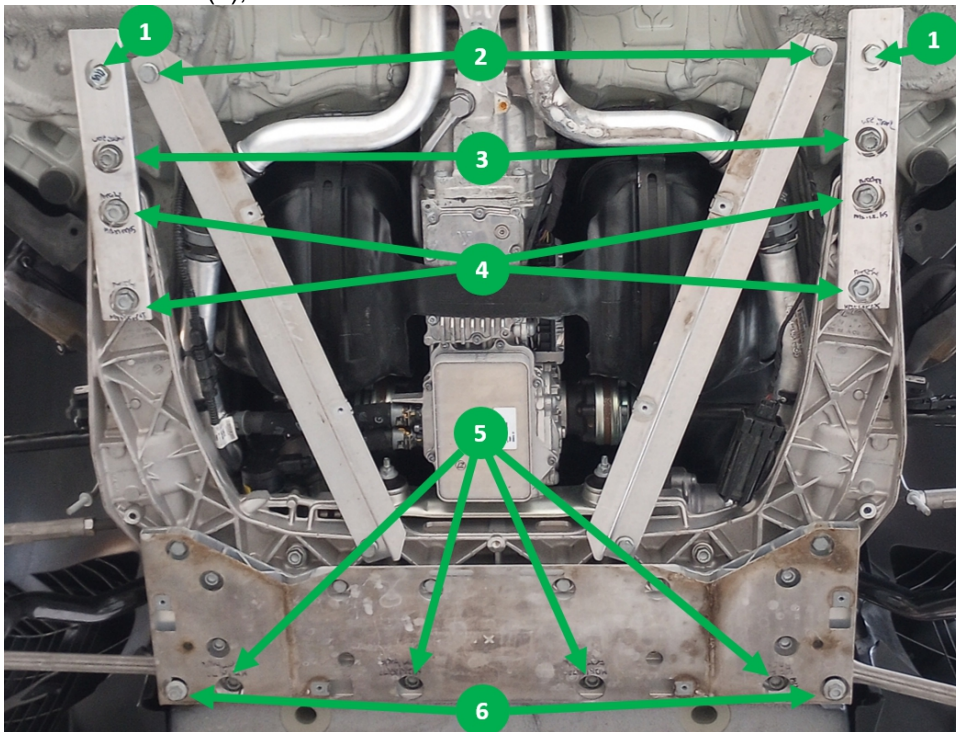

Figure 1
Remove the screws securing the front sub-frame. Referring to Figure 1 below and the Parts List table 1 above, Install the 22mm thick spacers between the sub-frame and the chassis in the locations shown in table 2. The remaining original screws will not be re used unless they are specified in Table 2. Note 991.1 uses studs in location (1), remove the studs.